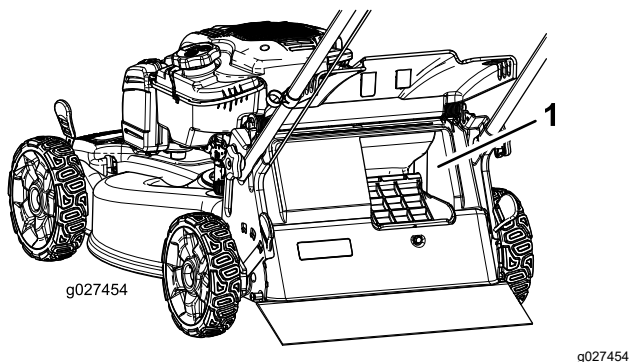

Figure 19
**Important:** For proper operation, shut off the engine, wait for all moving parts to stop, and then remove any grass clippings and debris from the bag-on-demand door and the surrounding opening (Figure 19) before you move the bag-on-demand lever from 1 position to another.